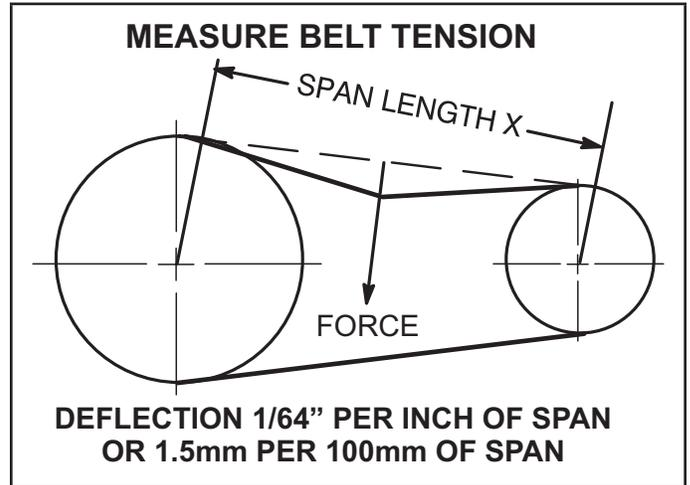

FIGURE 28
- 1 - Measure span length X. See FIGURE 28.
- 2 - Apply perpendicular force to center of span (X) with enough pressure to deflect belt 1/64" for every inch of span length or 1.5mm per 100mm of span length.